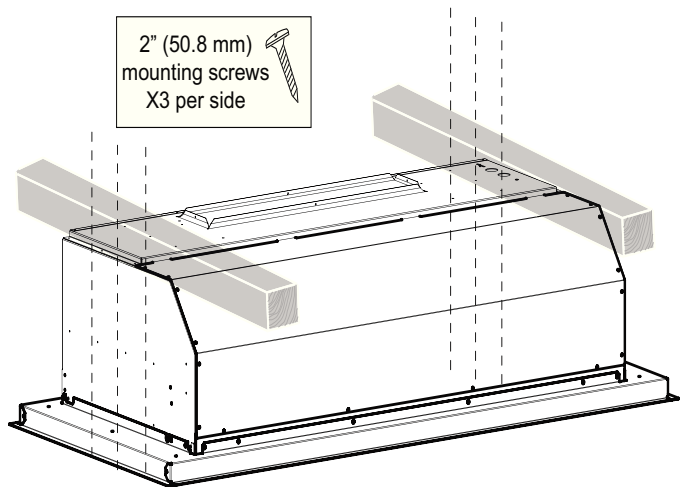

Figure 38: VCIB Side Screws
- c) Secure to the sides of the frame using six (6) 2" (50.8 mm) mounting screws provided (*Figure 38*).